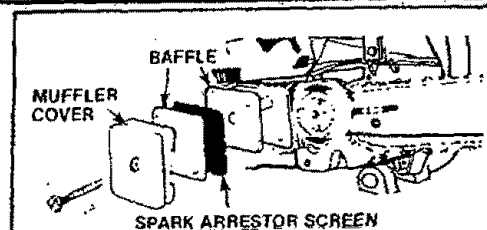

Figure 43
2. Remove the Muffler Cover. Figure 43.